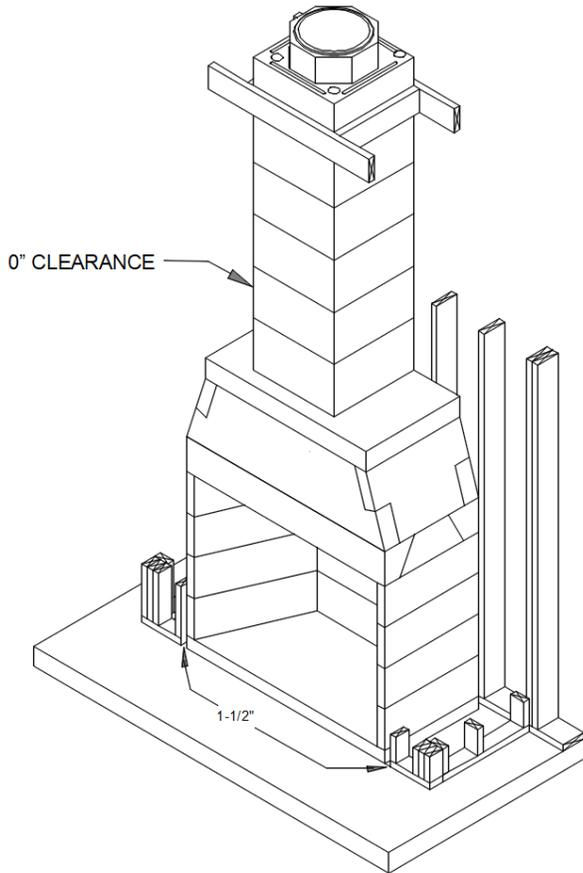

FIGURE 1
Isokern Fireplace and Chimney Systems are tested and listed to UL standards: UL 127, ULC S610, and UL 103HT. The listing label shown in Figure 1 above outlines the listed clearances to combustibles and indicates that the units are suitable for use with solid fuel or listed gas appliances. Refer to the manufacturer's installation manual for detailed description of clearances to combustibles and all other installation information.
**(Figure 1)**